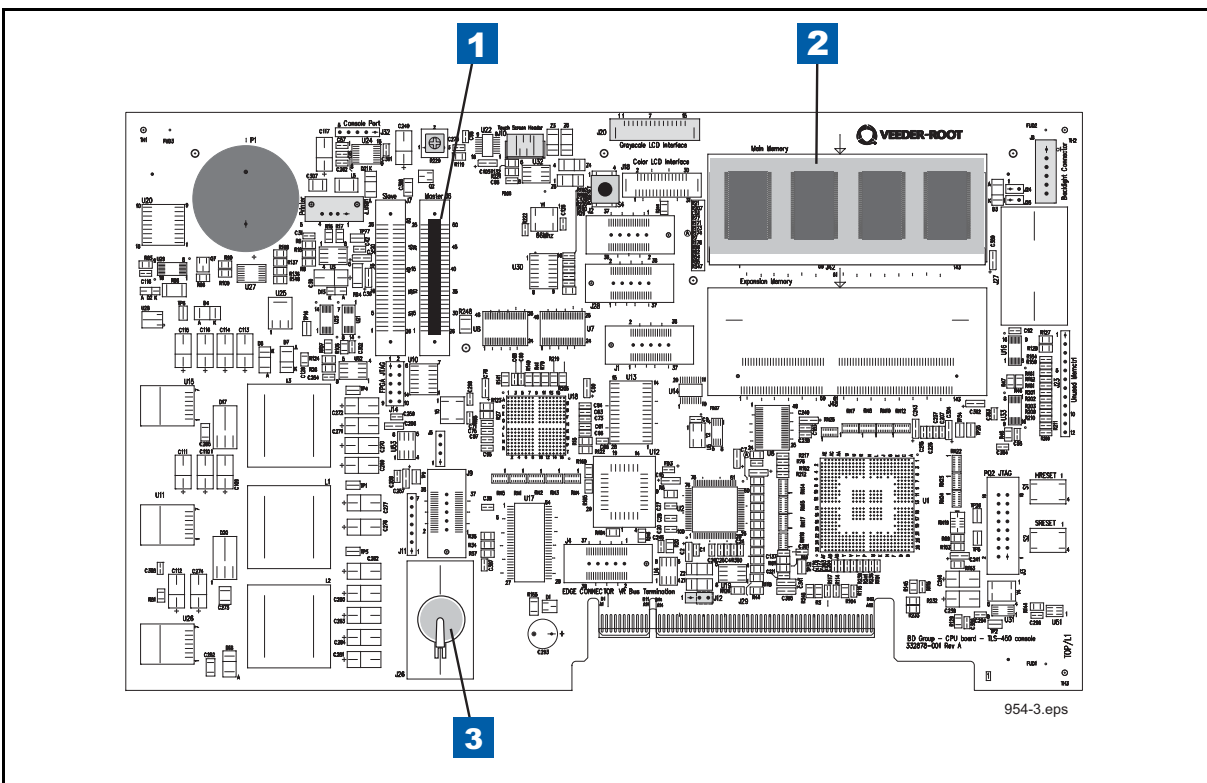
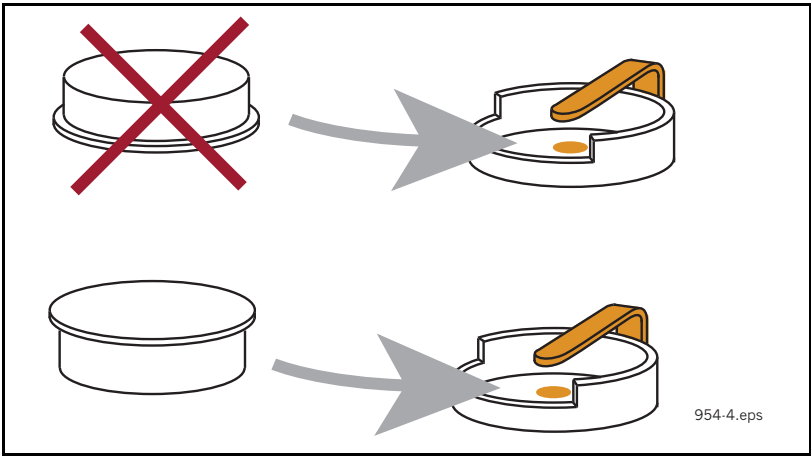
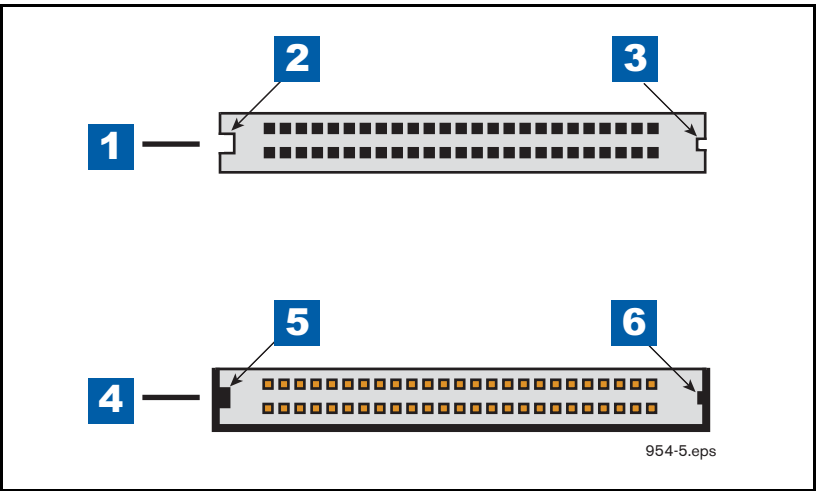

Figure 9. Locating CPU board components
Figure 10. Installing iButton flanged end up
Figure 11. Orient CF card side grooves to the CF card connector guides
9. Remove the iButton from the old CPU board and install it in the same socket on the new CPU board (see Figure 9). Make sure the flanged side of the iButton is up in its socket (see Figure 10).
10. Remove the CF card from the old board and install it in the same connector on the new CPU board. Orient the CF card so the large/small grooves in the side of the CF card align with large/small guides on the sides of the connector (see Figure 11).
LEGEND FOR NUMBERED BOXES IN Figure 9
LEGEND FOR NUMBERED BOXES IN Figure 11
4. Remove the CF card from the CPU board (see item 1 in Figure 9 for location) and install the new CF card. Orient the card so the large/small grooves in the side of the card align with large/small guides on the side of the socket base (see Figure 11).